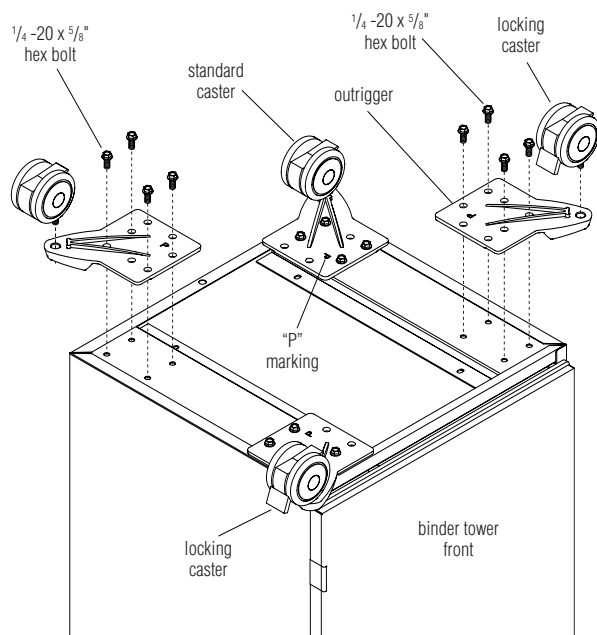

Figure 1
3. Position the outriggers as illustrated, with the "P" marking face up, over the appropriate mounting holes at the underside of the tower. Secure each outrigger to the underside of the tower with four 1/4-20 x 5/8 inch hex head bolts (Figure 1).
4. Thread the casters into the outriggers. Locking casters must be positioned to the front of the cabinet as illustrated. Tighten the nut of the caster to the tower with a wrench (Figure 1).
5. Gently raise the cabinet to it's upright position on the casters (Figure 1).